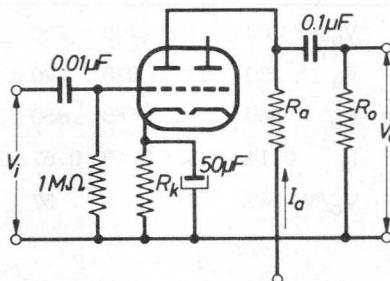

Fig.1
A. F. amplifier Fig.1 see page 8